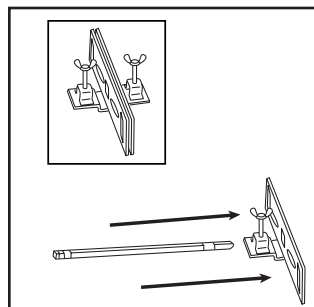

Figure 3
3. Locate two (2) End Brackets. Unscrew each wing nut fully, but do not remove from bracket. Place Brackets against each other so long ends are touching as shown in inset drawing. Set both End Brackets down while keeping them in the same position. (You will be assembling only the End Bracket shown on the left at this time.) Pick up End Bracket which is shown on the left and slide pointed end of Rotisserie Bar through the square hole in this End Bracket **ONLY**. See Figure 3.